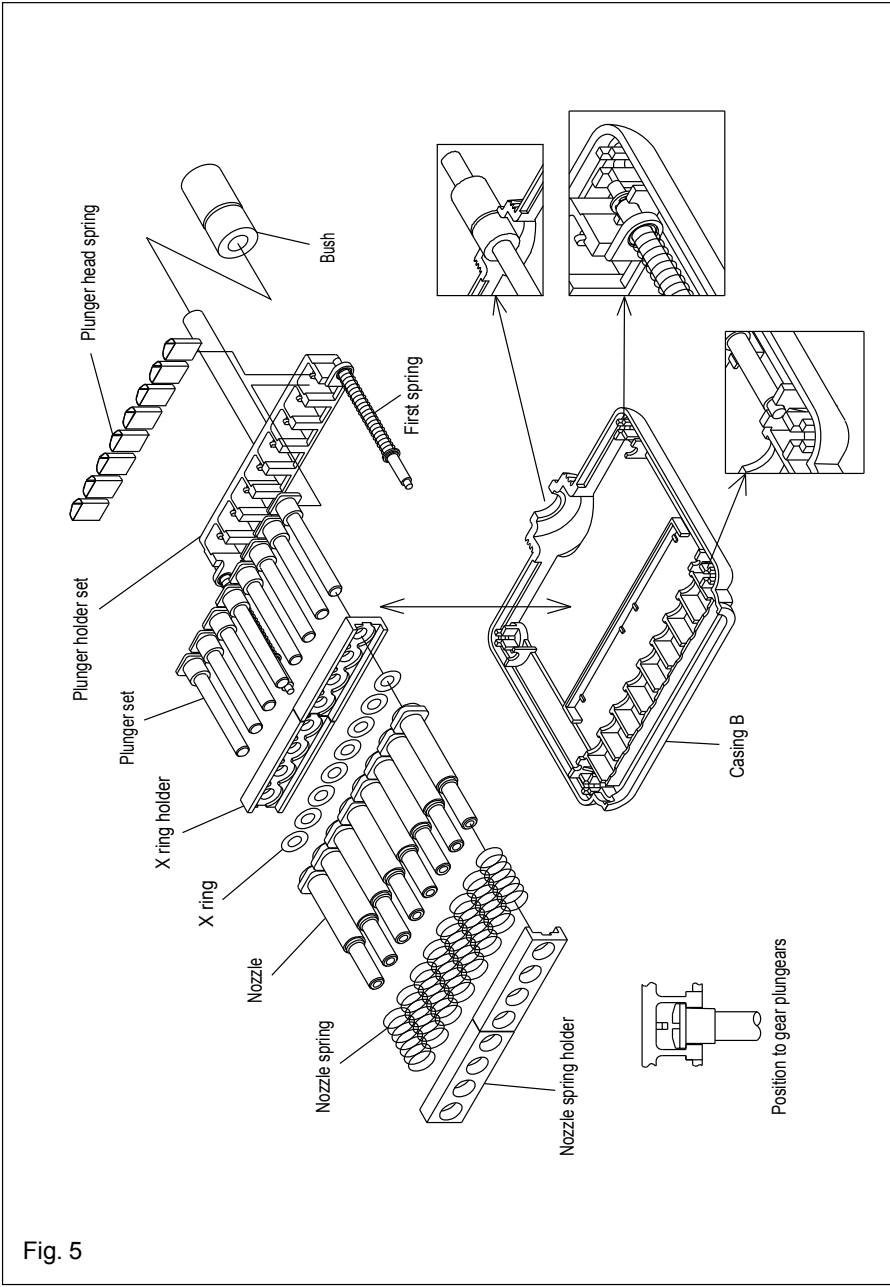

Fig. 5
- 5) Remove each part. (Fig. 5)
- 1) Attach each part to casing B. (Fig. 5)